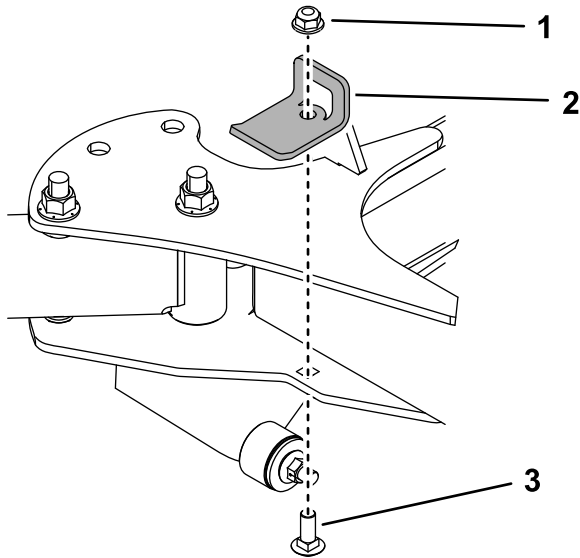

Figure 10
10. Use a carriage bolt (3/8 x 1 inch) and a locknut (3/8 inch) to install the stop bracket to the right side of the machine (Figure 10). Torque the bolt to 37 to 45 N·m (27 to 33 ft-lb).